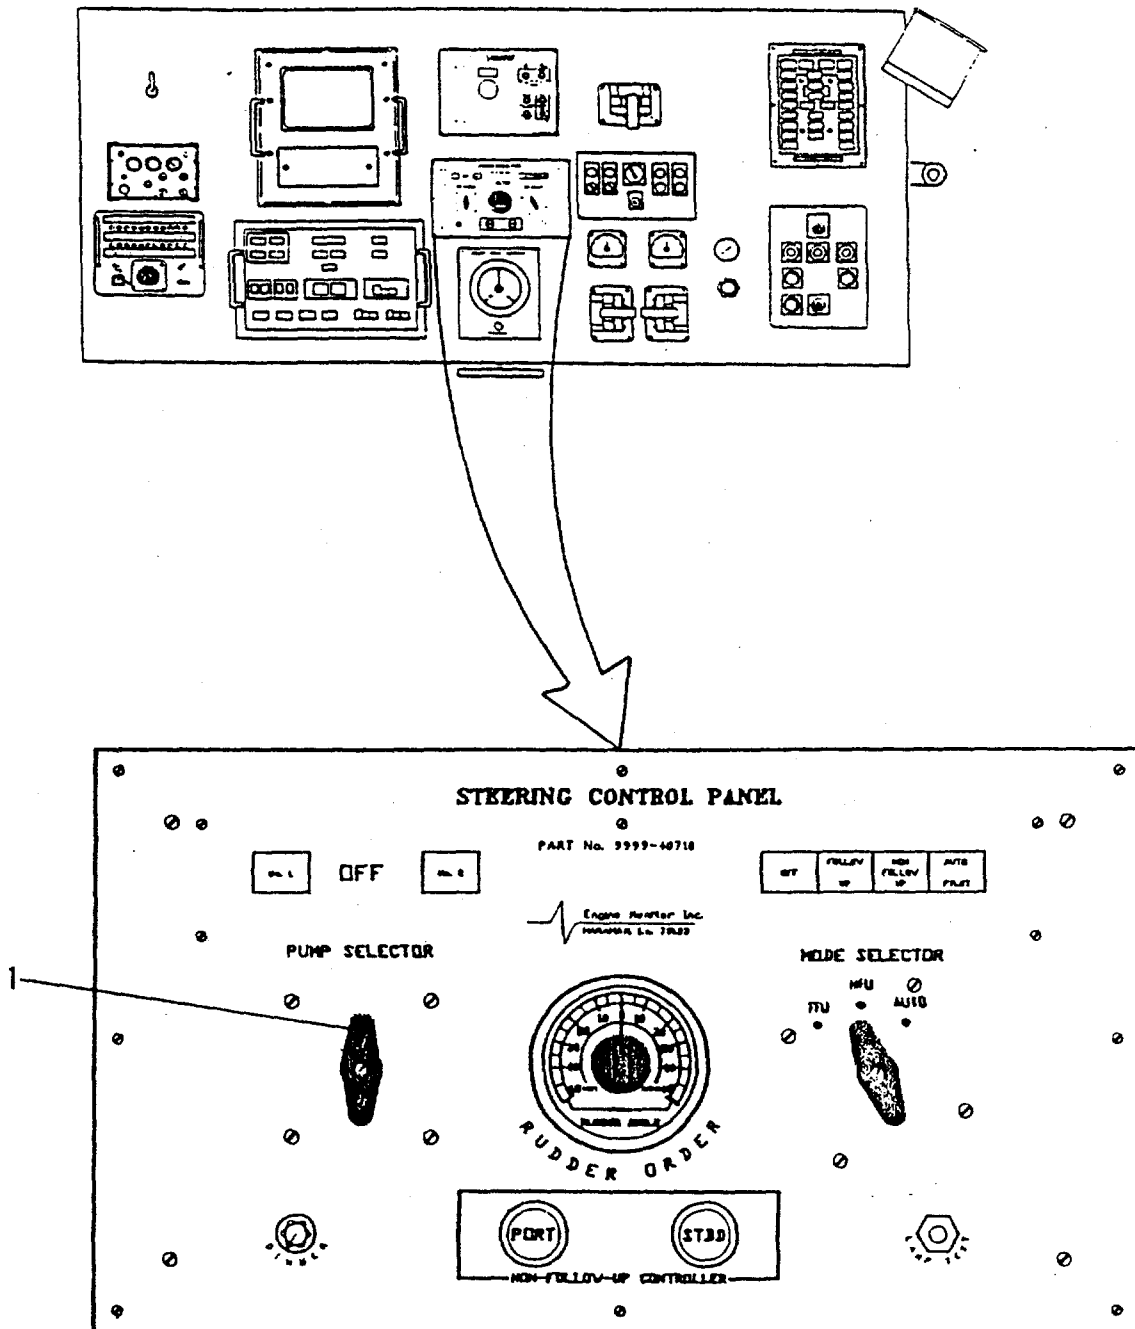

FIGURE 2-248.1. Steering Control Panel
- a. If operating on the #1 pump system, select #2 pump system or vice-versa on the PUMP SELECTOR SWITCH on the STEERING CONTROL PANEL (1, FIGURE 2-248.1). Steer vessel at reduced speed until repairs are completed.